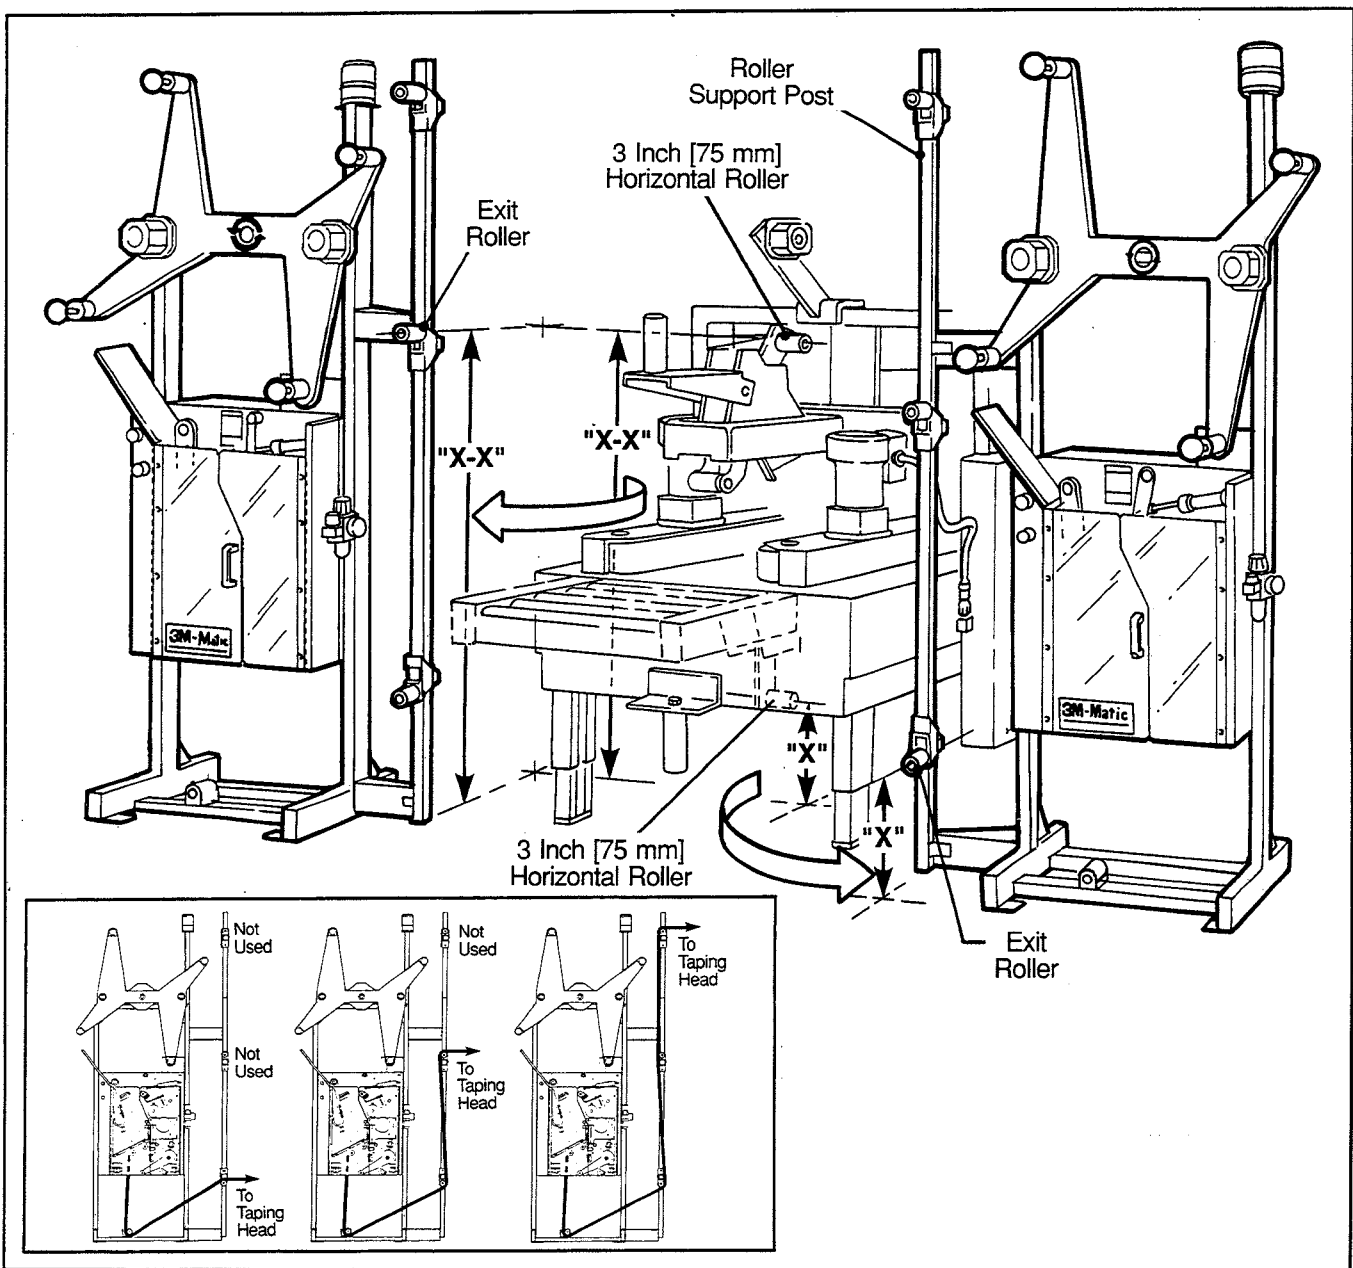

Figure 2-9 – CTS Roller Placement
4. Measure approximate distance from floor to center of 3 inch [75 mm] horizontal roller on taping head/case sealer. Adjust **center of exit roller** on CTS roller support post to this approximate distance from floor. See Figure 2-9.
Note – Rollers on support post can be used as shown in examples (inset) on Figure 2-9. Use only the rollers that are needed.